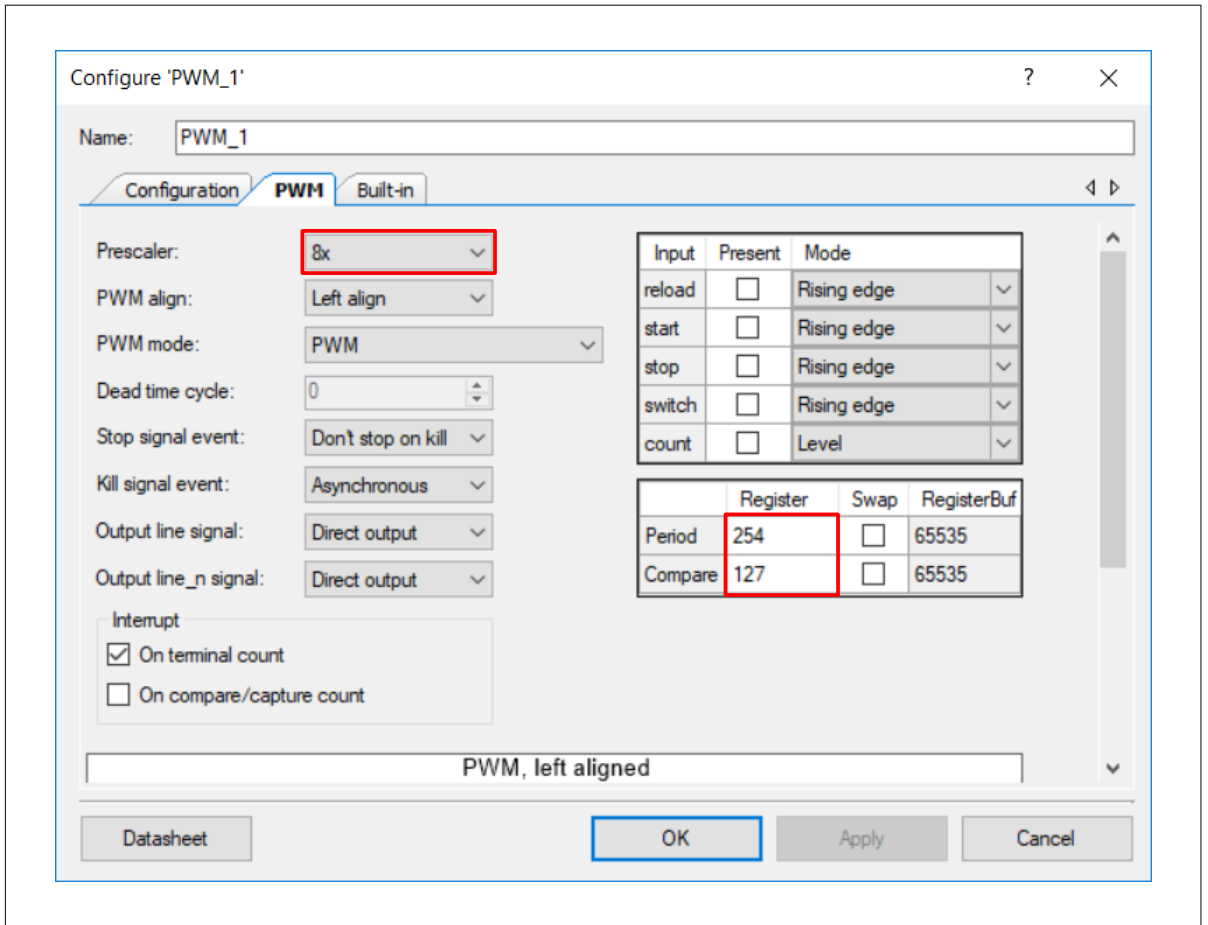

**Figure 38** Location of the PWM Component
6. Drag one PWM (TCPWM mode) Component from the Component Catalog onto the schematic, as shown in Figure 38.